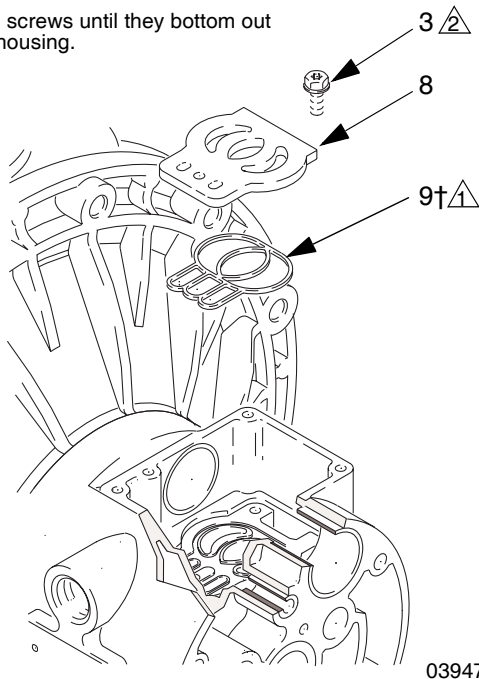

FIG. 9
5. Inspect the valve plate (8) in place. If damaged, use a Torx (T20) screwdriver or 7 mm (9/32 in) socket wrench to remove the three screws (3). Remove the valve plate (8) and seal (9). See FIG. 9.
2. On aluminum center housing models, install the valve plate seal (9†) into the groove at the bottom of the valve cavity. The rounded side of the seal **must face down** into the groove. See FIG. 9.
3. Install the valve plate (8) in the cavity. The plate is reversible, so either side can face up. Install the three screws (3), using a Torx (T20) screwdriver or 7 mm (9/32 in) socket wrench. Tighten until the screws bottom out on the housing. See FIG. 9.